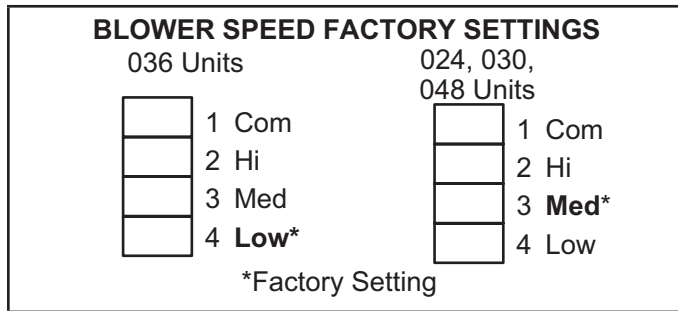

FIGURE 7
- Use FIGURE 7 to determine the factory set blower speed.